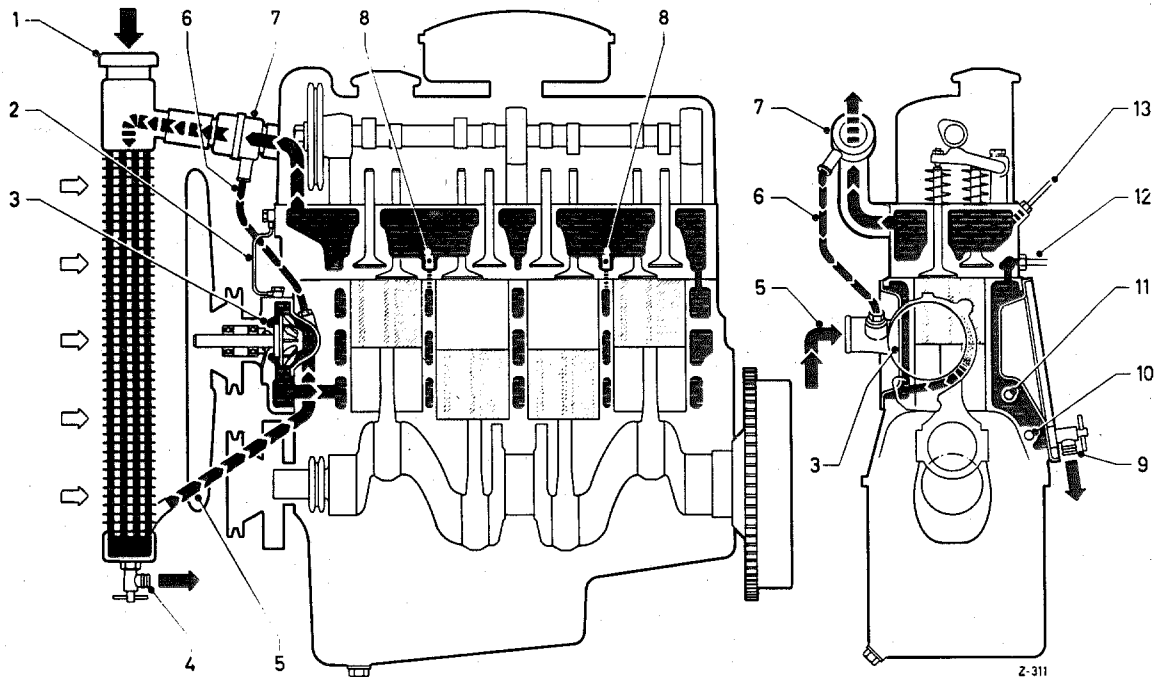

Fig. 50—0/1
The cooling system of the engine is a pressure-circulation system. The schematic diagram (Fig. 50—0/1) shows the cooling system circulation.
An overpressure valve (3) which limits the overpressure developing in the cooling system to 1 atm., is located in the radiator filler cap. When the pressure rises above 1 atm., the overpressure valve opens and in doing so, opens up the overflow line (1) (see Fig. 50 — 1/2).
In order to prevent a partial vacuum from developing in the cooling system, an additional valve, an underpressure valve (4) is incorporated in the radiator filler cap. This valve opens at an underpressure of 0.1 atm. and the overflow line (1) enables the underpressure to be neutralized (see Fig. 50 — 1/2).
Water is fed to the two heat exchangers for the car heater from the exhaust union neck (12) at the cylinder head via a pipe (see Fig. 50 — 0/1). The heat exchangers can be individually switched on or off. The return flow takes place via a line to the cooling water line (5) from the radiator to the water pump.
A water drain cock (4) is fitted as usual to the radiator block. There is also a water drain cock (9) on the crankcase (see Fig. 50 — 0/1).
If the water is to be drained off, both cocks, the drain cock (4) at the radiator and also the drain cock (9) at the crankcase must be opened (see Fig. 50 — 0/1). In addition, the feeder line to the heat exchangers must be disconnected and the control valves of the heat exchangers opened. This is particularly important if the cooling system has to be completely drained in cold weather owing to the fact that no anti-freeze is available.